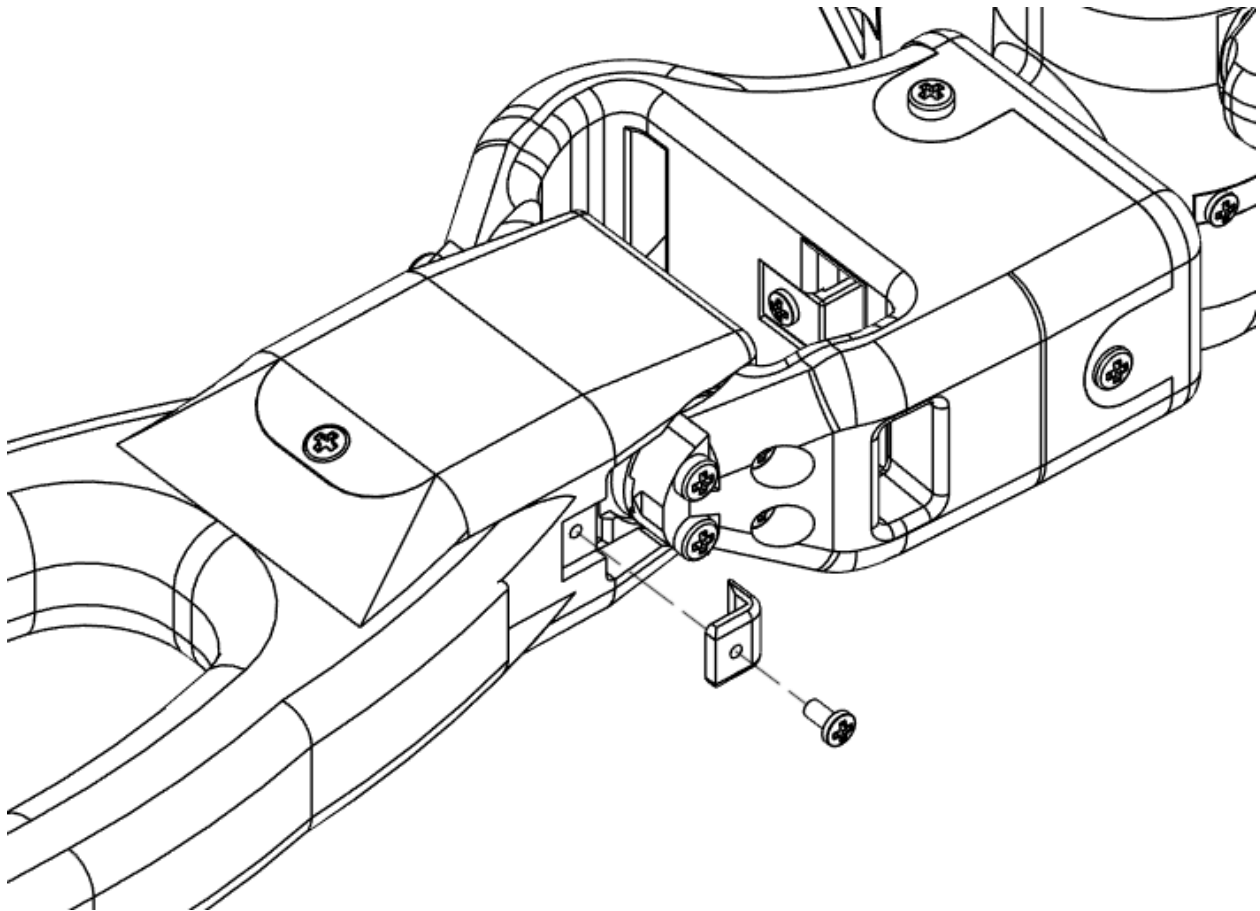

Figure 10.23 - Motor 4 Wire Clip Assembly
- 27.** Fasten Motor 4 Wire Clip to Forearm as shown in Figure 10.23
- a.** (1) M2x5mm
- b. NOTE:** Arm Wires are not shown in Figure 10.23